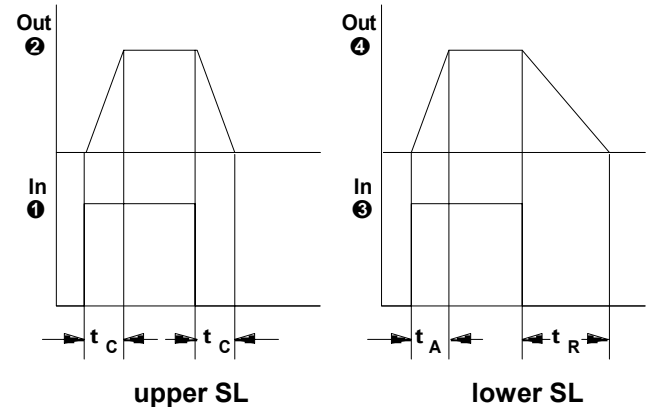

Fig. 1: A-170 response
This control sets the **rise / fall time  $t_c$**  of slew limiter 1 (see Fig. 1) in a range from 0 to 10 seconds.
With this control you set the lower slew limiter's **rise time  $t_A$**  (see Fig. 1), within the range set by switch ⑥.
The fall time  $t_R$  of the lower slew limiter (see Fig. 1) is set with this control, within the range set by the range switch ⑥.